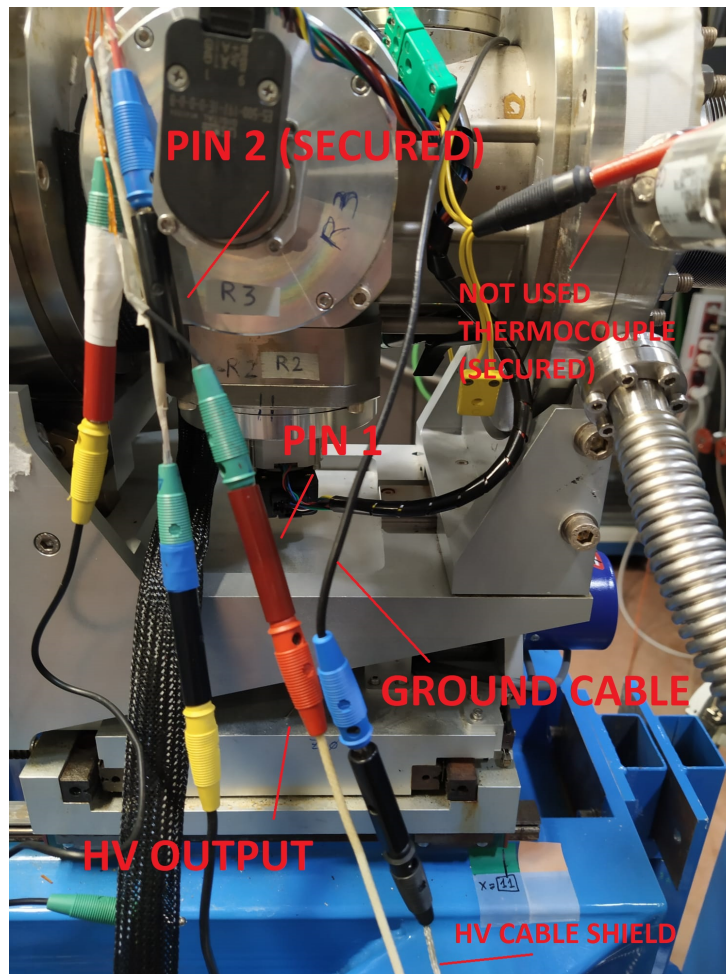

Figure 34: Electron Bombardment setup.
1. Connect the HV cable shield to the ground cable, and the HV output to either the pin 1 or pin 2 cable, as shown in fig.34. **SECURE THE NOT USED ELECTRICAL CONTACT (PIN 1 OR 2) AND THE NOT USED THERMOCOUPLE WITH AN INSULATING SHIELD, AS SHOWN IN THE FIGURE.**